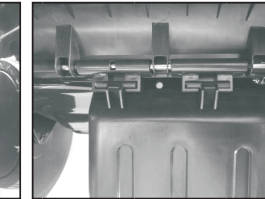
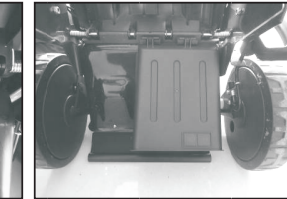

Fig.11B
Fig.11C
2. Fit the rear discharge chute into the relative holes, making sure it is securely in place.(Fig.11B/Fig.11C)